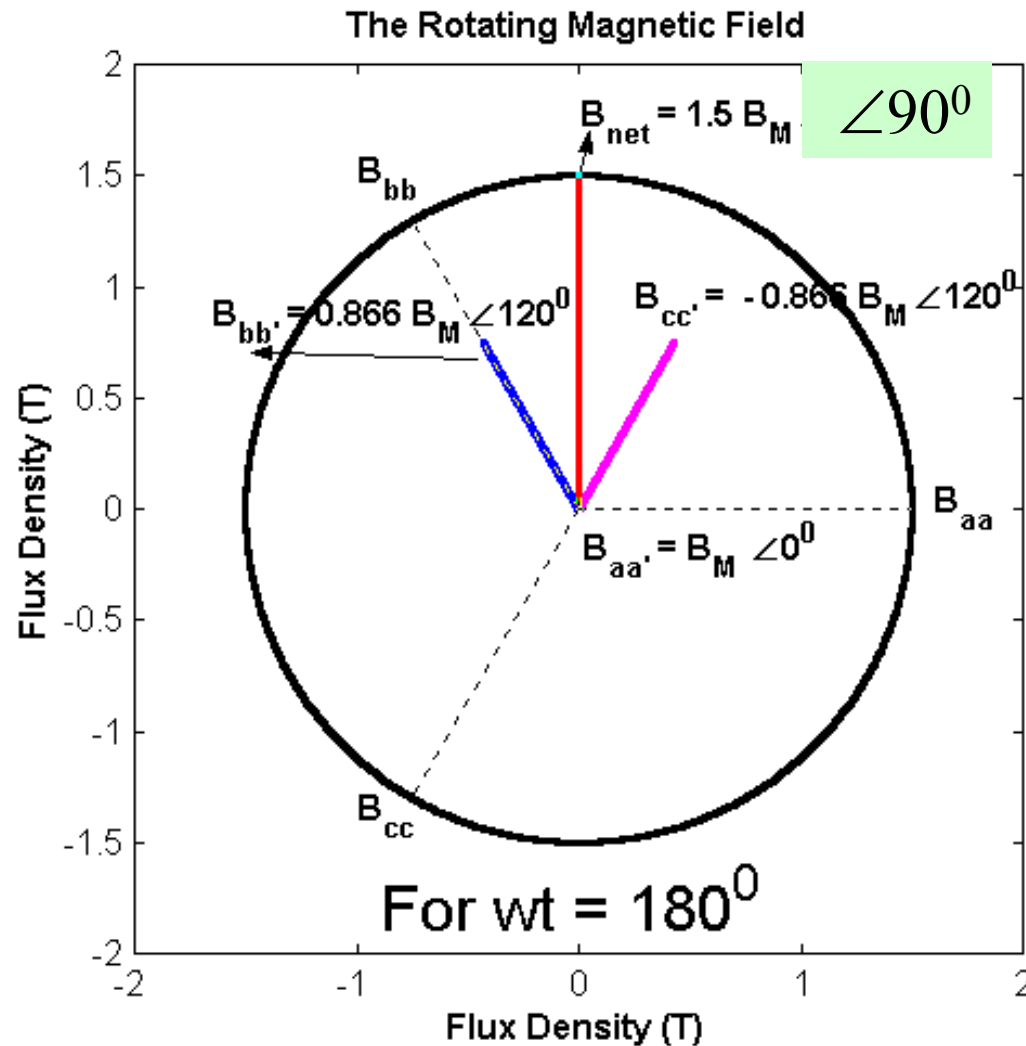

Figure 5.14(c): The net magnetic field vector for $\omega t = 180^\circ$
- The resulting net magnetic field is shown in Fig. 5.14(c).